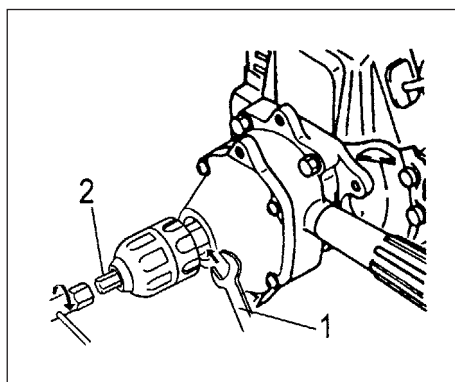

Fig. 2-7C
- To install or loosen the keyless chuck, set a 19mm spanner (1) between gear case and chuck to lock drive shaft. Install the locking bar (2) in the tool bag into the chuck, and then tighten (clockwise) the bar (2) with the enclosed box spanner or loosen (counter-clockwise) . (Fig. 2-7C)